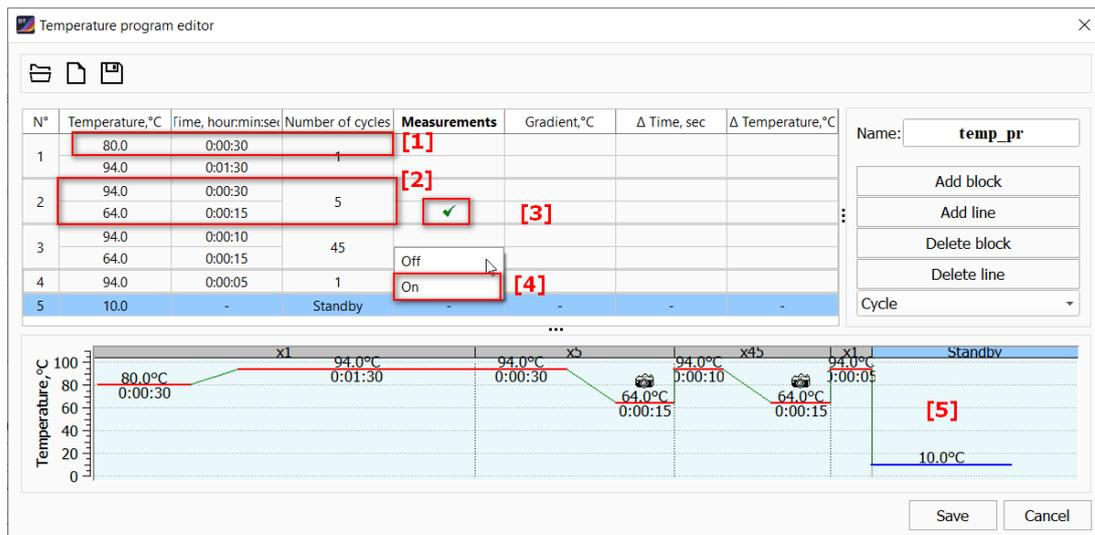

Figure 14 – Formation of the temperature program
3. Form the stages of the program. At the first stage, you need to add a block using the **Add block** button (fig. 14). After that, you can add lines (the **Add line** button) and subsequent blocks if necessary.